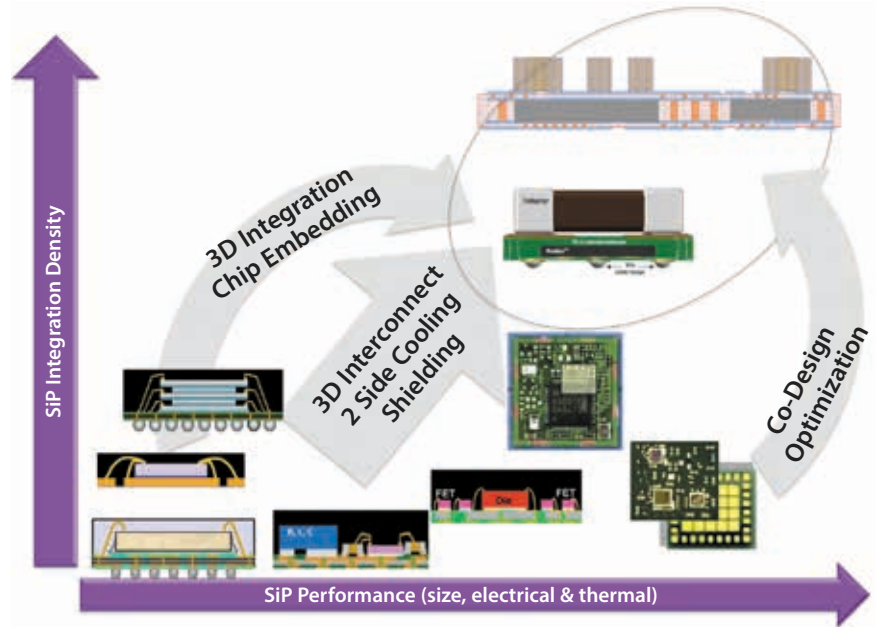

Figure 1. Trend to 3D SiP with Embedded Chip.
**3D SiP with embedded chip technology** has integration, performance and 3D architecture flexibility that can offer benefits to a wide range of applications. 3D SiP with embedded chip typically requires wafer level, substrate fabrication, micro-electronic and SMT process technologies which to date has been a limitation for turnkey supply chain solutions. Figure 1(2) illustrates the trend to 3D SiP and the integration density and performance benefits enabled by embedded chip technology.